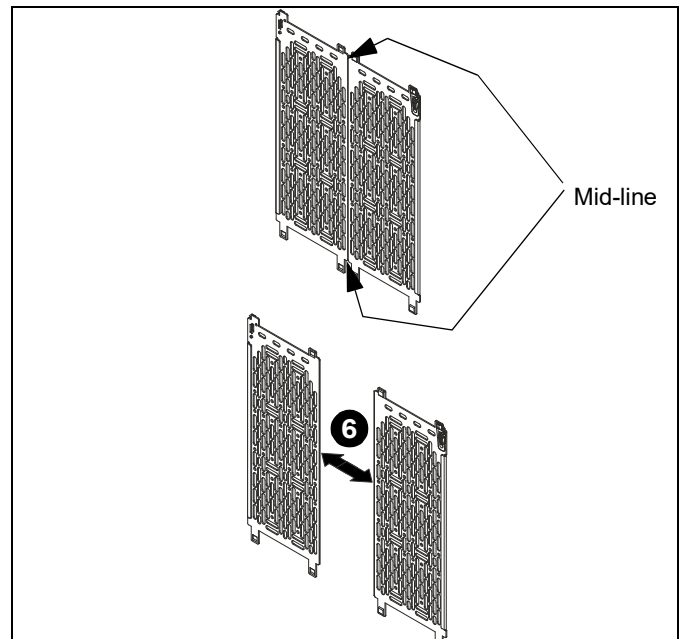

Figure 4
6. (PACL2 only) If required, break the LeverLock™ backplanes (A) along the scored mid-line. (See Figure 4)